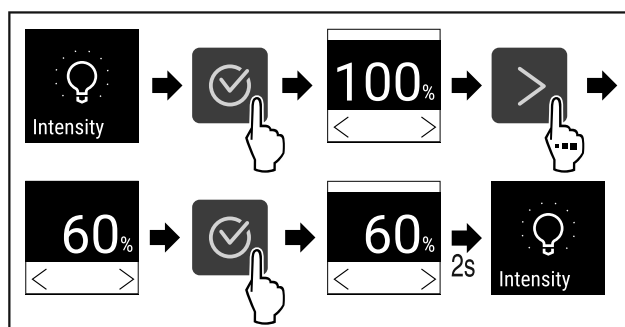

Fig. 89
- ▶ Carry out steps (see Fig. 89).